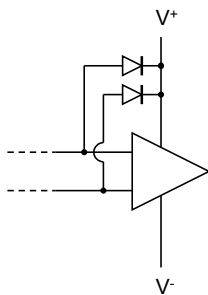

Fig.4-1
- / prevent operating of a parasitic circuit by inserting a diode (Fig.4-1/4-2).